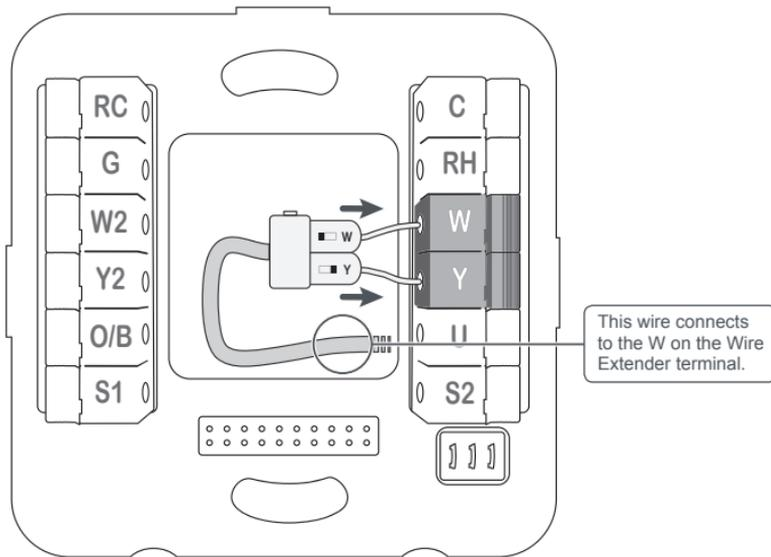

Figure 8 : Diode pair connection.
2. Connect the diode pair to the Y and W terminals (Fig. 8). Ensure that the diode pair's Y terminal is connected to the thermostat's Y terminal and the diode pair's W terminal is connected to the thermostat's W terminal.
2. Conecte el par de diodos a los terminales (Fig. 8). Asegúrese de que la terminal Y del par de diodos esté conectada al terminal Y del termostato y que la terminal W del par de diodos esté conectada al terminal W del termostato.